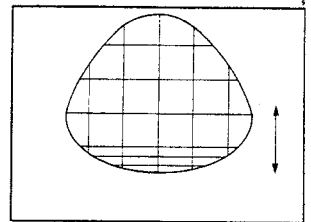

fig. 5
- d) Adjust the Vertical symmetry to obtain symmetrical scanning between upper and lower picture (fig. 5).